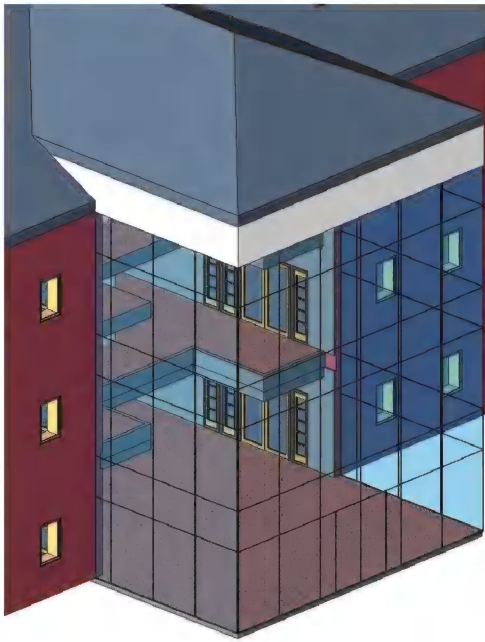

FIGURE 8-5.4 Curtain grid – 3D view
8. Using the **Curtain Grid** tool, add the grid lines shown in **Figure 8-5.4**. Starting at the outside corner, space the grids 5'-4" (the last space will be smaller).